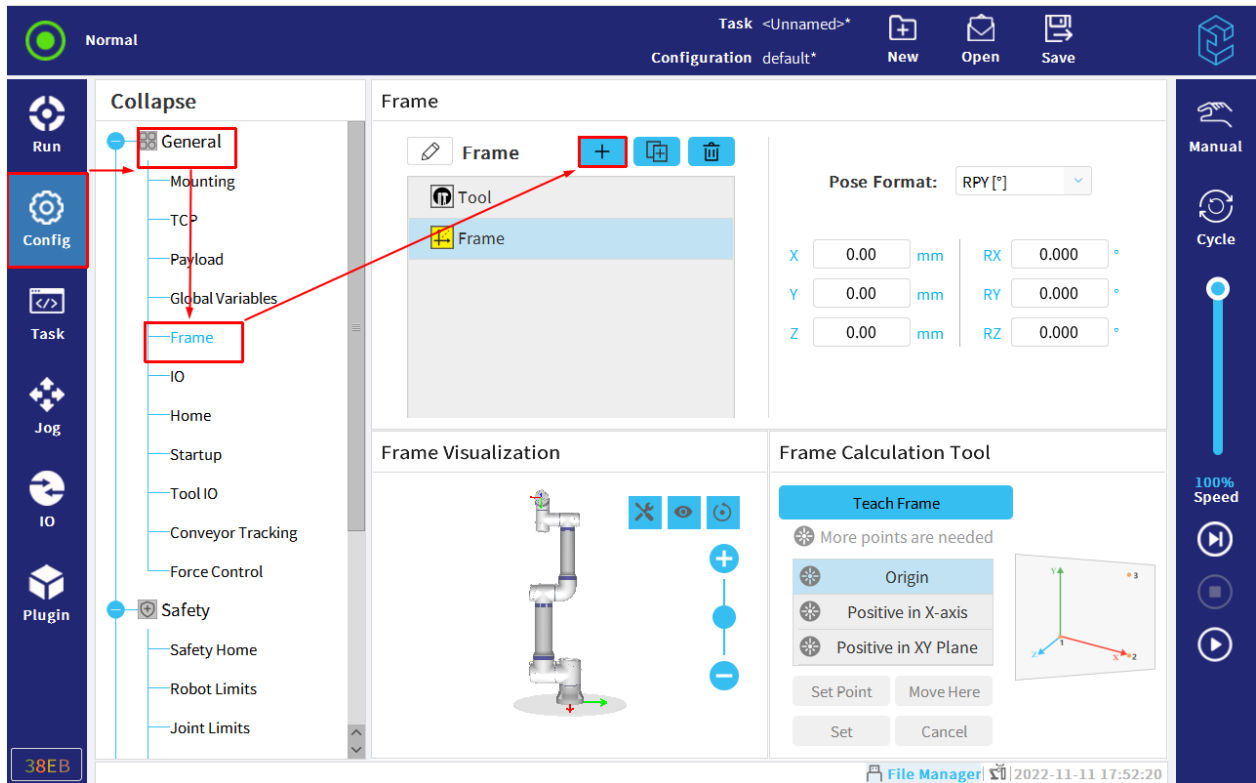

Figure 11-7 Add frame
1. Click "Config > General > Frame", click  , as show in Figure 11-7.